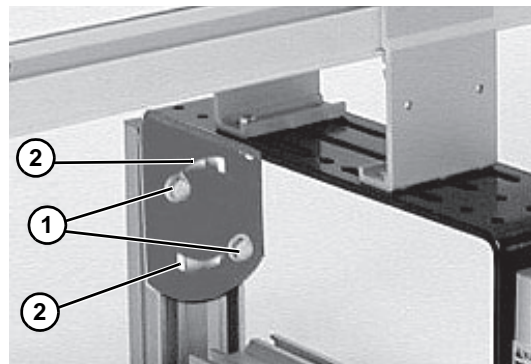

Figure 15
To rotate stand top plate, screws (Figure 15, item 1) may need to be re-located to t-slots (Figure 15, item 2).
1. Loosen flange head hex screws (Figure 15, item 1) on both sides of stand.
Failure to secure screws (Figure 15, item 1) may cause conveyor sections to drop down, causing severe injury.
TIGHTEN ALL SCREWS (Figure 15, item 1) **AFTER ADJUSTMENT.**
3. Secure screws (Figure 15, item 1) to 150 in-lb (17 N-m).